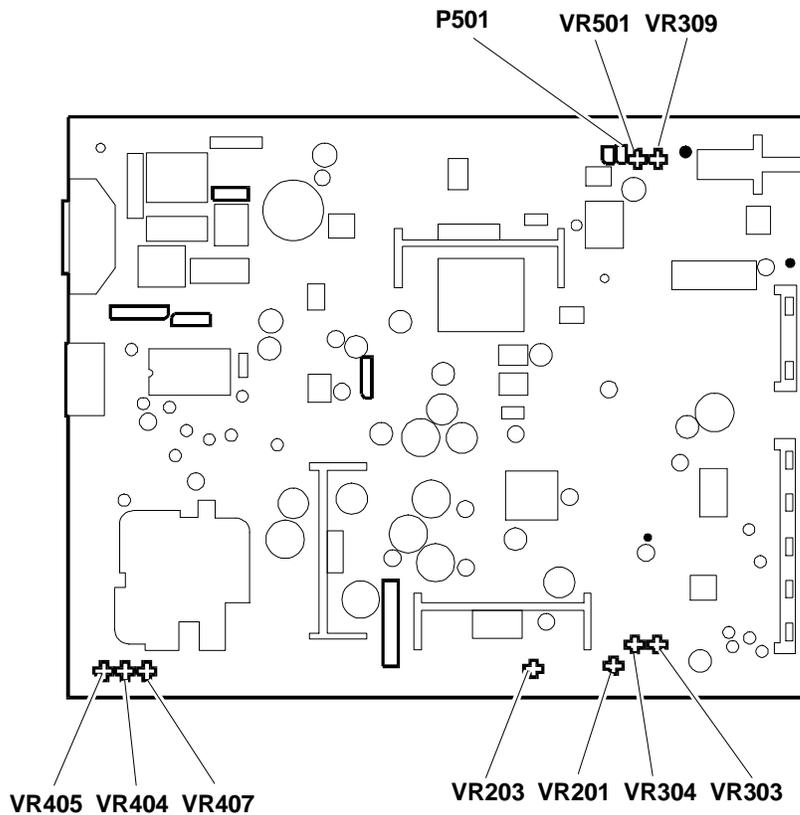

Fig. 42-12 Main Board Adjustments
- Attach the positive pole of the frequency meter probe to the red cable of the deflection yoke and the negative pole to the display unit frame and then attach connector P501 (see the figure 42-12) to ground.